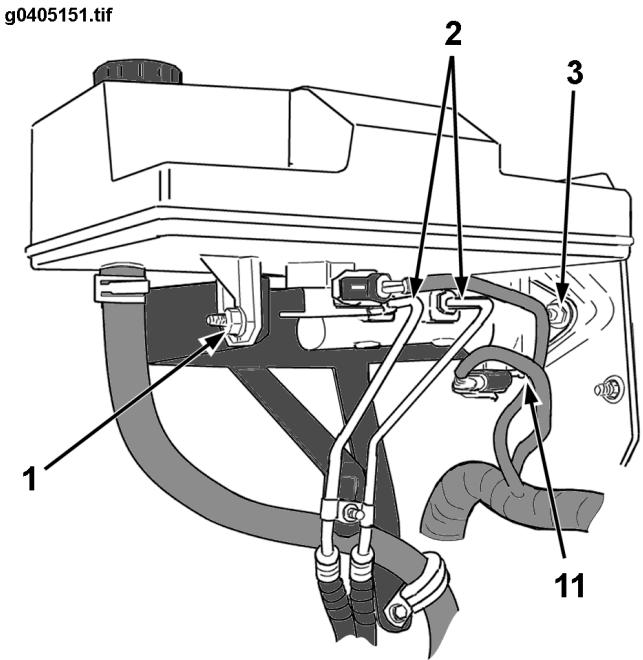
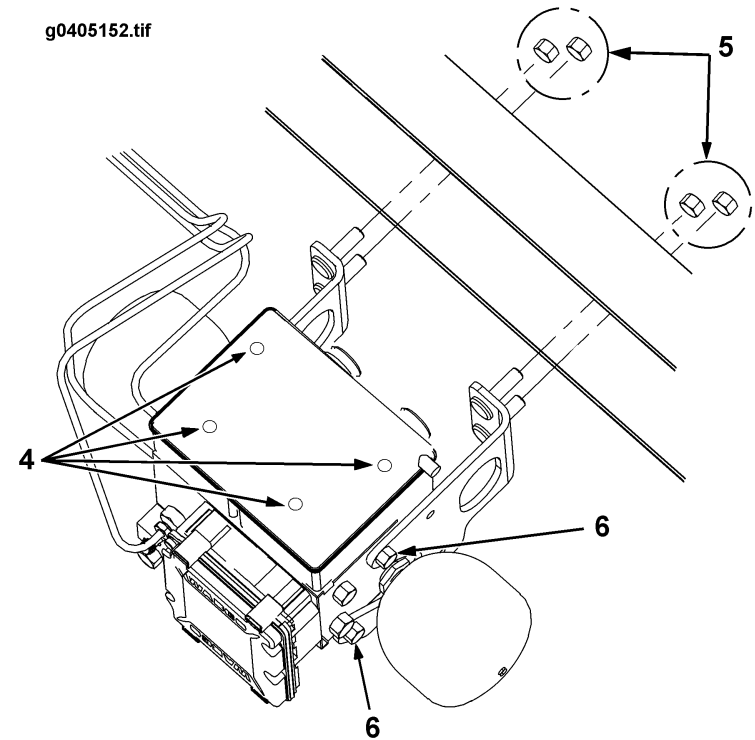
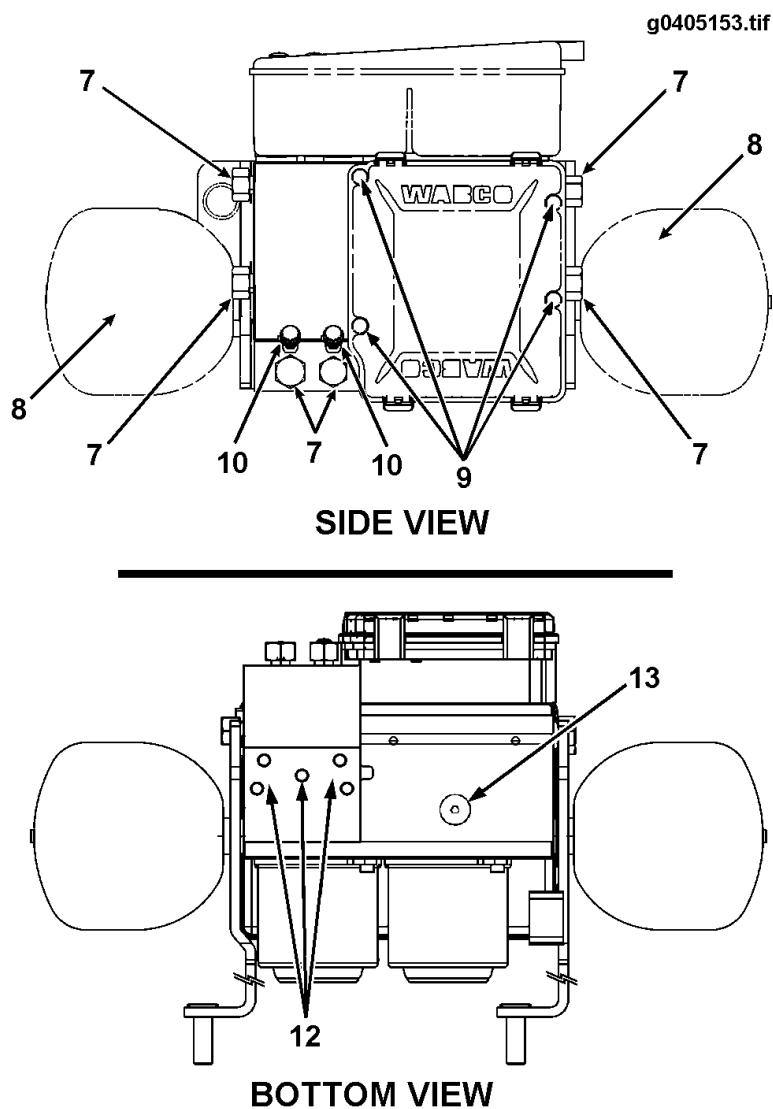

Figure 51 Torque Locations Diagram (1 of 3)
Figure 52 Torque Locations Diagram (2 of 3)
Figure 53 Torque Locations Diagram (3 of 3)
* Refer to the three torque location diagrams (FIGURE 51, FIGURE 52, and FIGURE 53) that follow this table.